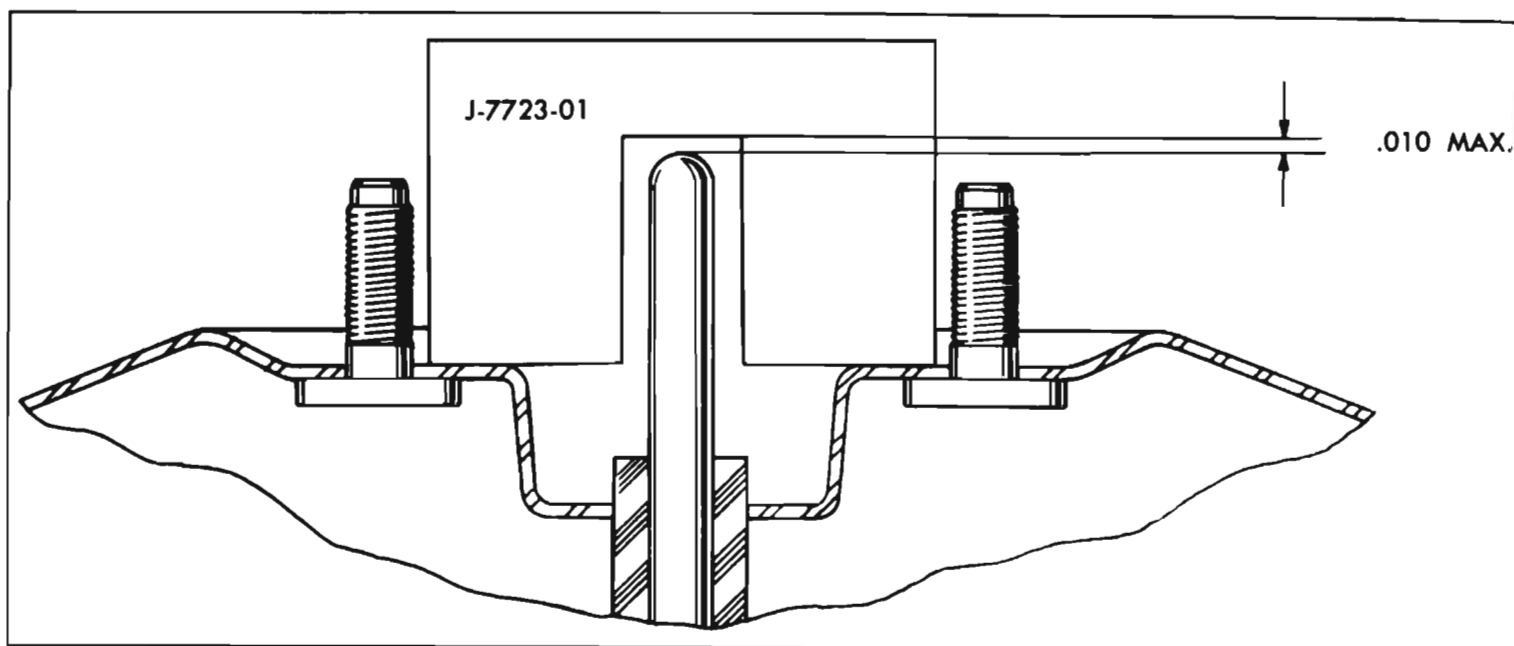

Figure 9-32—Gauging Master Cylinder Push Rod
2. Place Gauge J-7723-01 over the piston rod so that it fits between the two studs on the front housing. It should be parallel to the studs and resting on the surface of the housing. The cutout portion of the gauge should never be lower than the end of the piston rod, and the gap between the cutout in the gauge and the end of the piston rod should never be more than .010 inch. See Figure 9-32.